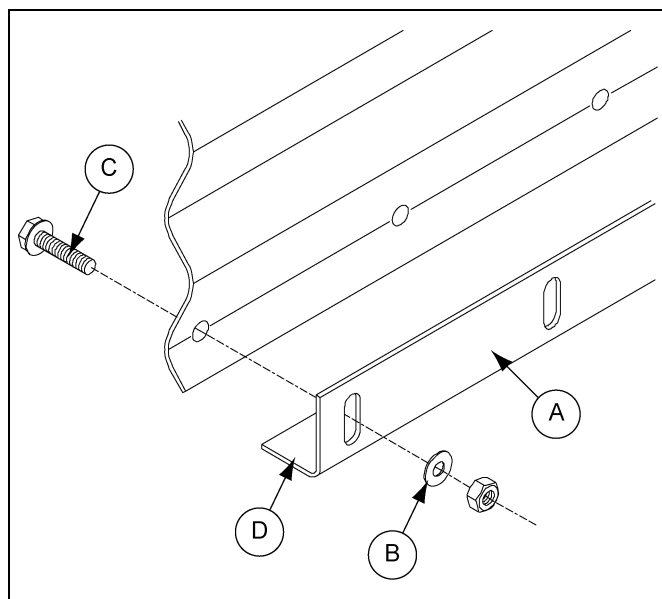

Figure 4AE
A bolt on the base angle is standard on 8 gauge unstiffened base ring sheets and all Farm-Com base rings. Install base angle on 8 gauge base ring as shown in Figure 4AE below.
2. To the lower edge of the 8 gauge bottom ring, attach the base angle. Bolt on the base angle where applicable. Before lowering the bin, apply mastic sealer to the entire underneath side of the base angle. (See Figure 4AE.)